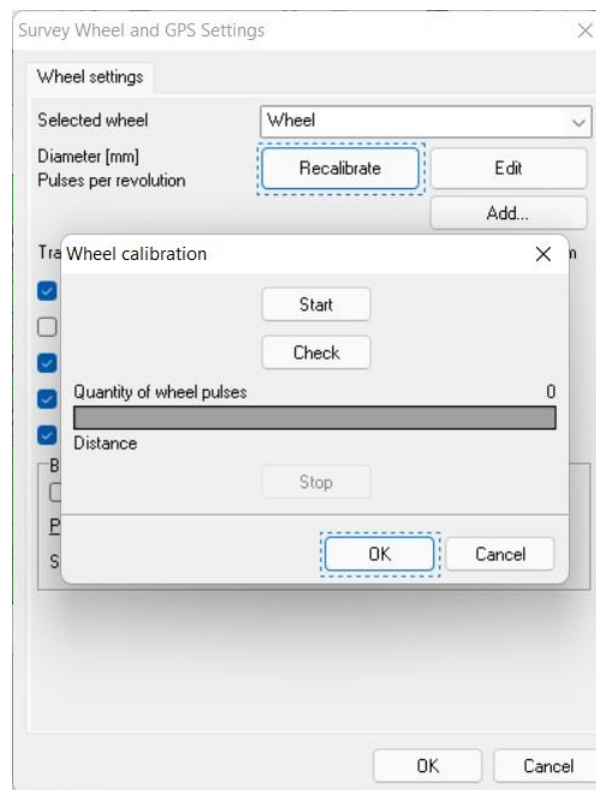

Fig.8.4. Survey wheel calibration
- **Calibrating** – the wheel can be calibrated (or recalibrated) by passing a precisely measured distance. In this case, user should select a calibration for an existing wheel, or add a new one and select a wheel calibration instead of its diameter and pulses per revolution. If selected wheel has a calibration possibility, the **Recalibration** button appears in the wheel settings window, press it and calibration window appears on the screen (Fig. 8.4). It is needed to establish a connection with the GPR and get an access to the wheel data, captured by the GPR for the wheel calibration. First of all, place the GPR antenna, with the connected wheel, at the starting point of the calibrating path. Setup all necessary settings of the GPR (take a look on the section 9. GPR tuning at the page 35) and turn it on. Press the **Start** button and move the antenna with a connected wheel for a precisely measured distance. Click the **Stop** button and enter the traveled distance. The software counts the number of pulses received from the wheel encoder to assign it to the entered distance. It will help to measure traveled distance precisely in the future. If necessary, you can check the calibration quality by pressing the **Check** button and passing the measuring distance again. These values should match with a correctly performed calibration.